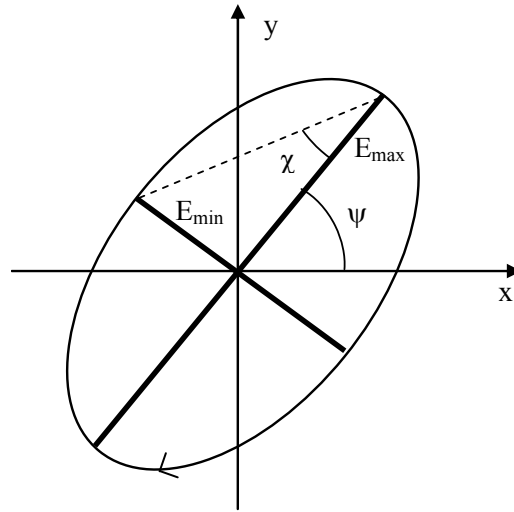

Figure 8 Right-handed Polarization Ellipse
The polarization ellipse is the elliptical trace made by the tip of the electric field vector of a light signal in the (XY) plane perpendicular to the light propagation direction  $z$ , where the  $x$ ,  $y$  and  $z$  axes define a right-handed coordinate system. Generally, the ellipse is characterized by its orientation and elongation. A common parameterization uses the **azimuth angle**  $\psi$  (the angle between the semi-major axis of the ellipse and the  $x$ -axis) and the **ellipticity angle**  $\chi = \pm \tan^{-1} (E_{\max} / E_{\min})$ , where  $E_{\max}$  and  $E_{\min}$  are the lengths of the semi-major axis and the semi-minor axis, respectively. If the rotation of the electric field vector tip appears clockwise to an observer facing the incoming light, the light is right-hand polarized and its ellipticity angle is positive; otherwise, the light is left-hand polarized and its ellipticity angle is negative. The direction of rotation (R/L) of the polarization is usually indicated by an arrow at the bottom right or bottom left of the polarization ellipse (see Figure 8).